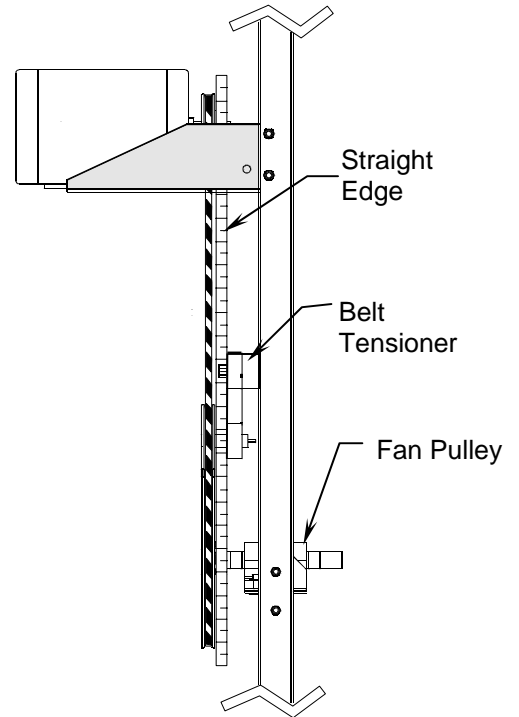

Figure 3 Install Belt
7. For Direct Drive Fans, skip to Step 8. Install the Belt. Refer to Figure 3. Use a straight edge to align the pulleys as shown. Securely tighten set screw of motor pulley and prop pulley. Recommended torque is 110 in. lbs. minimum.